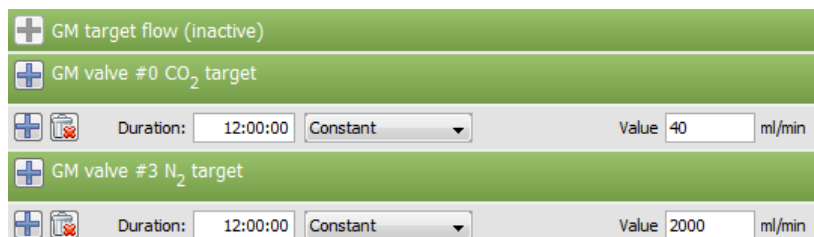

Fig. 34: Gas Mixer protocol in absolute mode
- **Absolute** – this mode sets absolute flow on valves and the absolute target flow is computed as a sum of valves flow (Fig. 34) thus the *GM target flow* accessory is inactive in protocol.